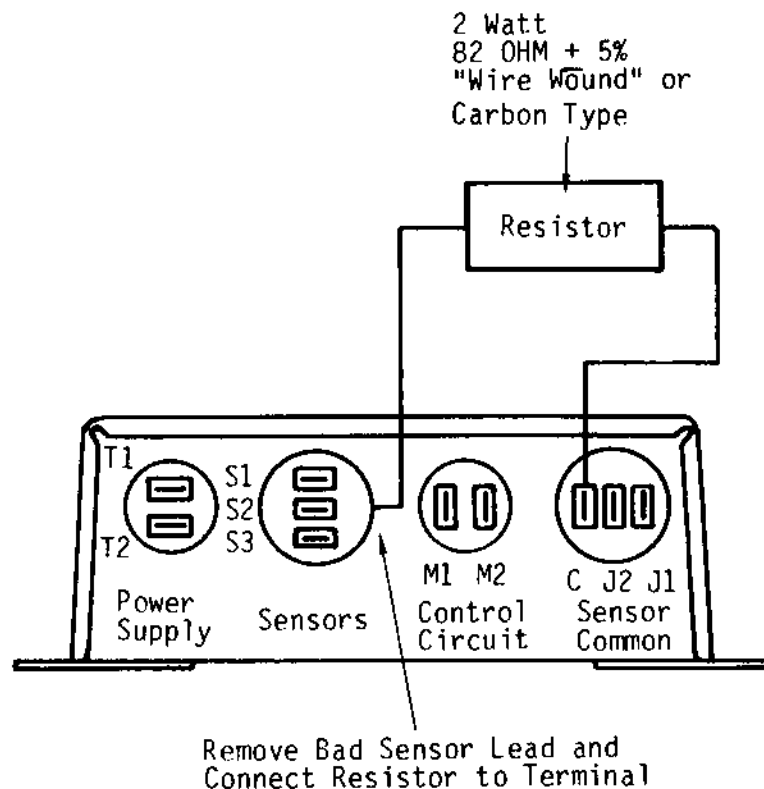

FIGURE 4 - Resistor Installed to Bypass Open Motor Sensor
2. Install the resistor specified in Figure 4 between the common terminal (C) and the terminal of the open sensor (S1, S2 or S3). Installation of the resistor will indicate the presence of an acceptable amount of resistance in the damaged sensor circuit and allow continued compressor operation.